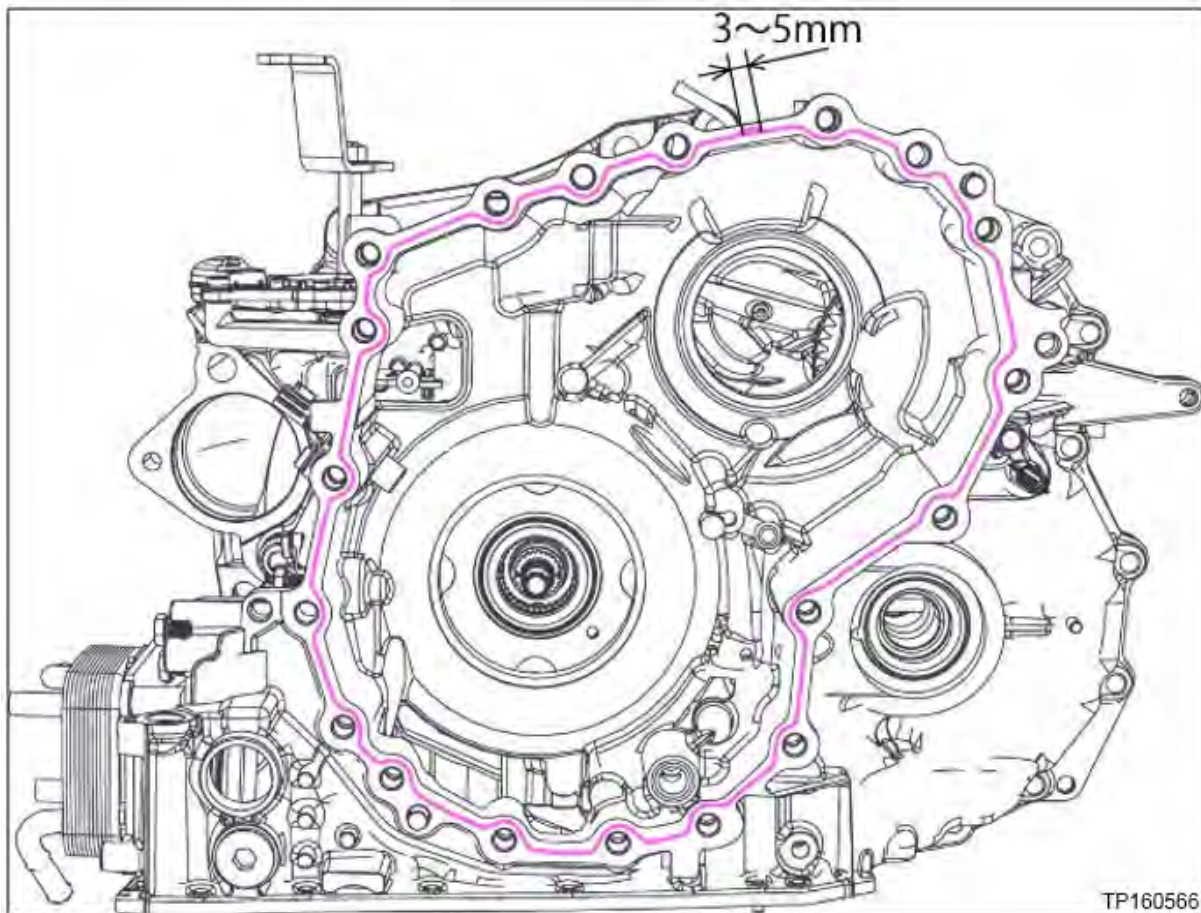

Figure 26F
22. Apply one continuous 2.0 mm diameter bead of sealant along the center of the CVT case side mating surface (Figure 26F).